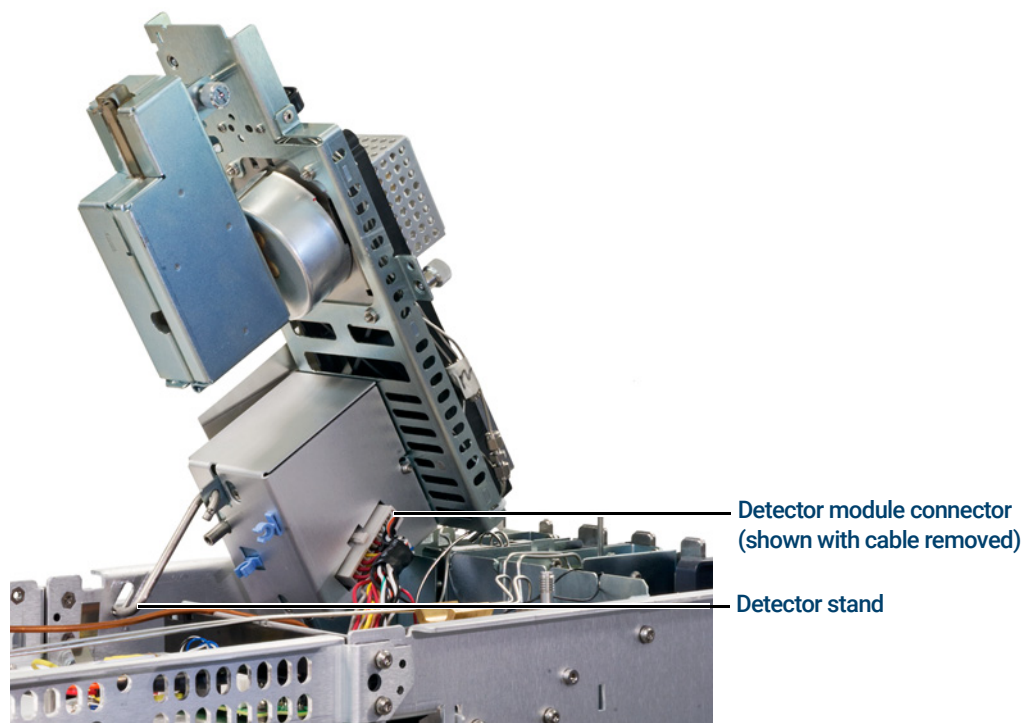

Figure 13. Detector module, raised, with detector stand and connector
- 12** With the detector module assembly raised, use the detector stand to keep the assembly in the raised position. See **Figure 13**.
- 16 While holding the front detector module assembly handle, unhook the detector stand and clip it back onto the bottom of the assembly. See Figure 13 on page 29.